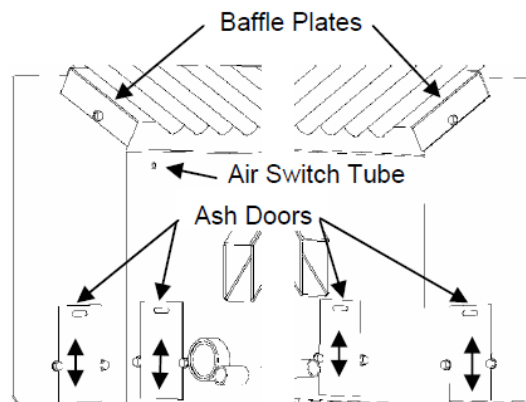

FIGURE 27
- Interior Chambers** – Four ash doors and two upper baffles in the firebox in the P22 can be removed for periodic cleaning (Figure 27). These doors allow access to the chamber surrounding the firebox.